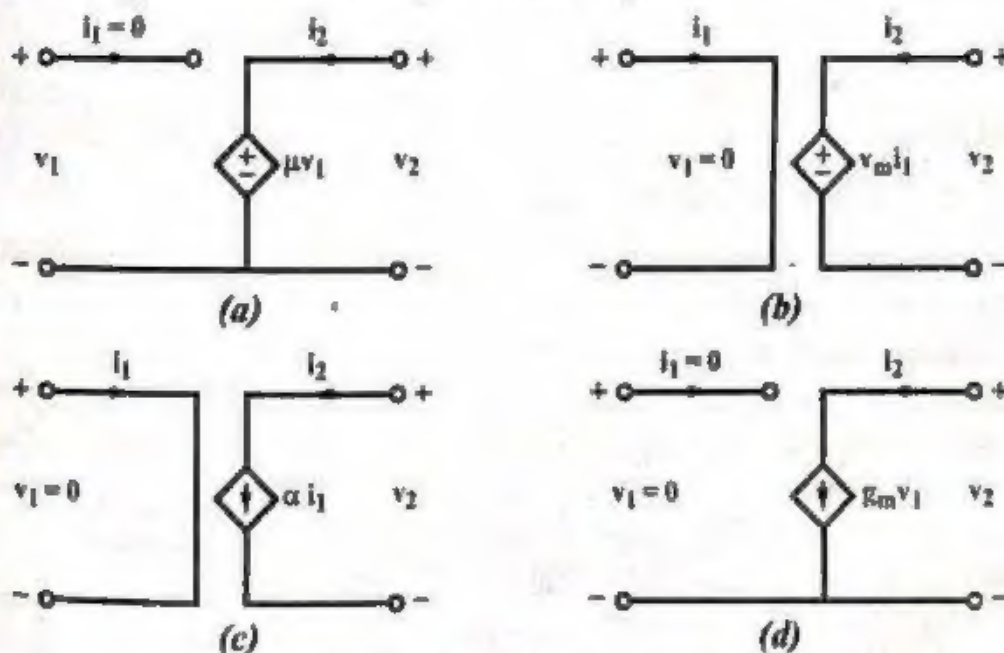

Fig. 1.6 Dependent Sources
- (i) Voltage dependent voltage source is shown in fig. 1.6 (a).
- (ii) Current dependent voltage source is shown in fig. 1.6 (b).
(iii) Current dependent current source is shown in fig. 1.6 (c).
(iv) Voltage dependent current source is shown in fig. 1.6 (d).